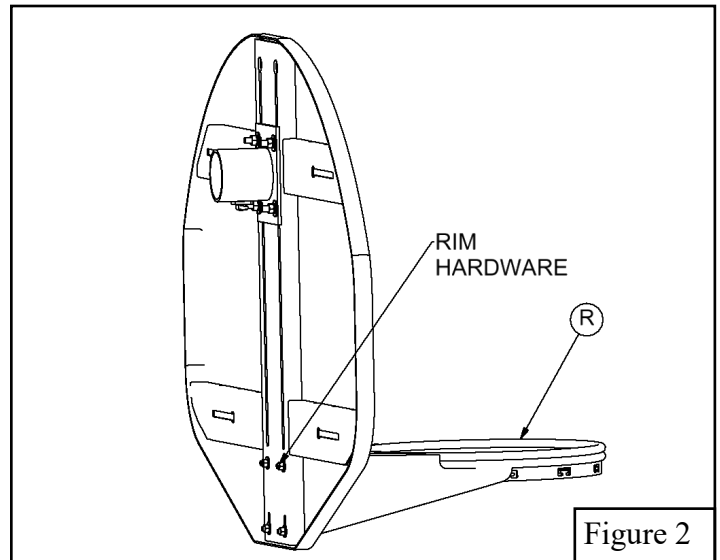

Figure 2
2. Install the *Rim (R)* to the *BA495 Fan Steel Backboard (A)* using the four holes near the bottom of the *BA495 Fan Steel Backboard (A)* with hardware provided with the *Rim (R)*. Tighten hardware when the *Rim (R)* is level with the shooters square on the face of the *BA495 Fan Steel Backboard (A)*. See Figure 2